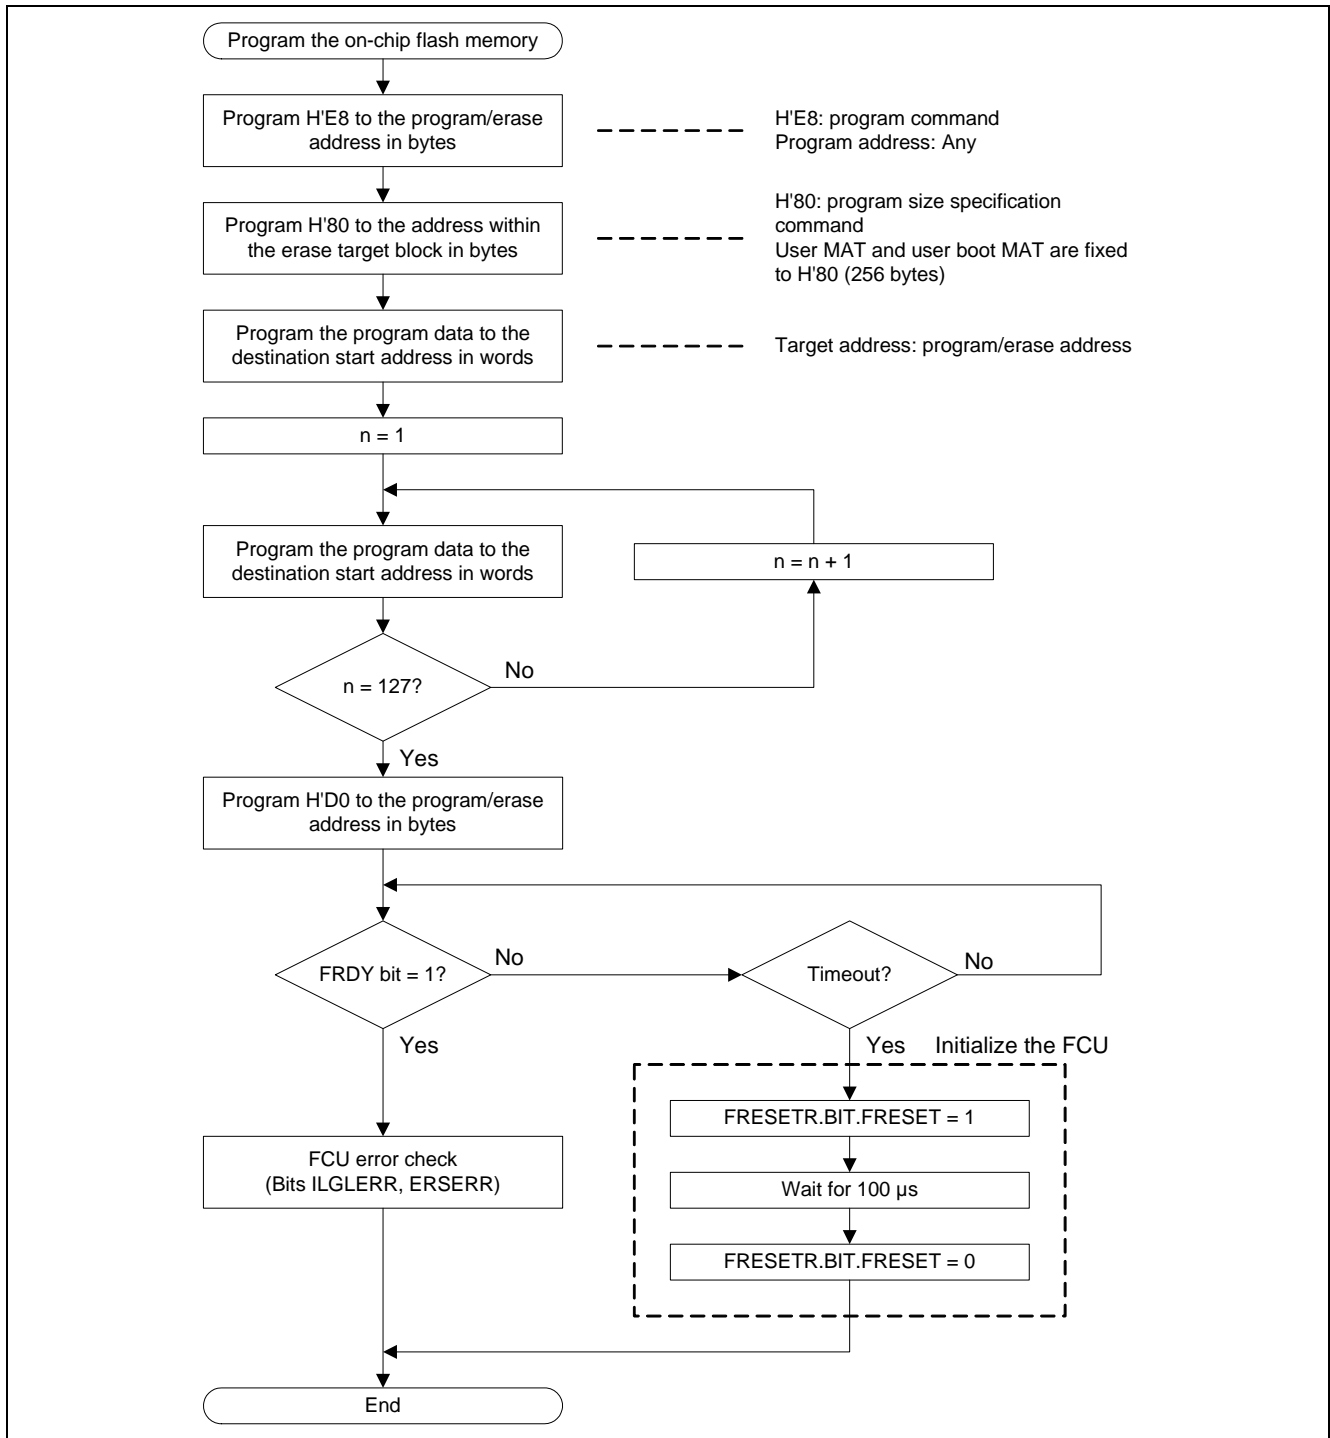

Figure 7 Programming the Flash Memory
Figure 7 shows the flow chart for programming the flash memory⁽⁴⁾.
4. Flow chart in Figure 7 does not follow the standard API.